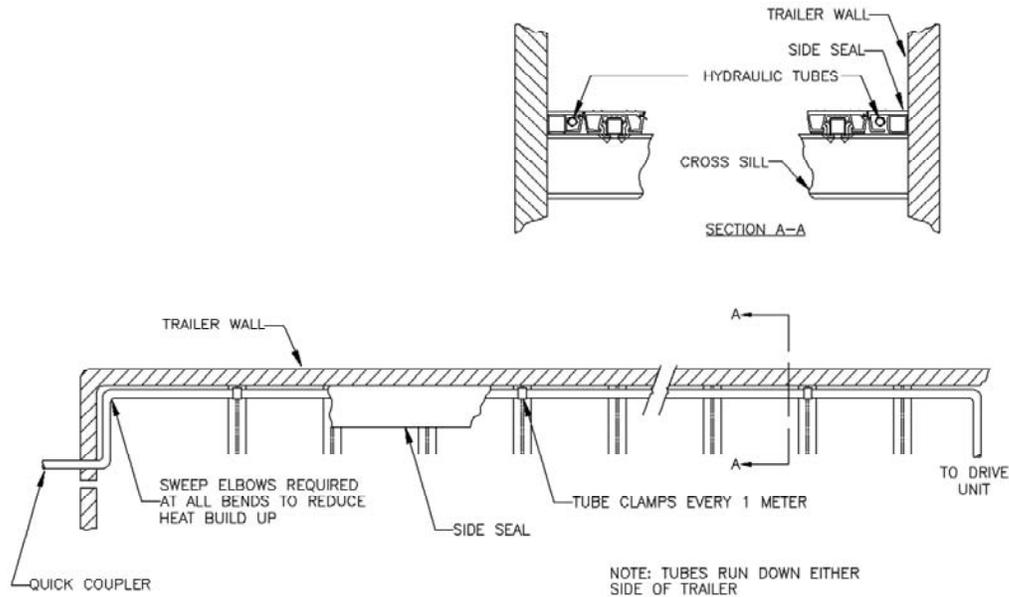

Figure 8
- 2) Routing the tubes under the side seal (Figure 8).